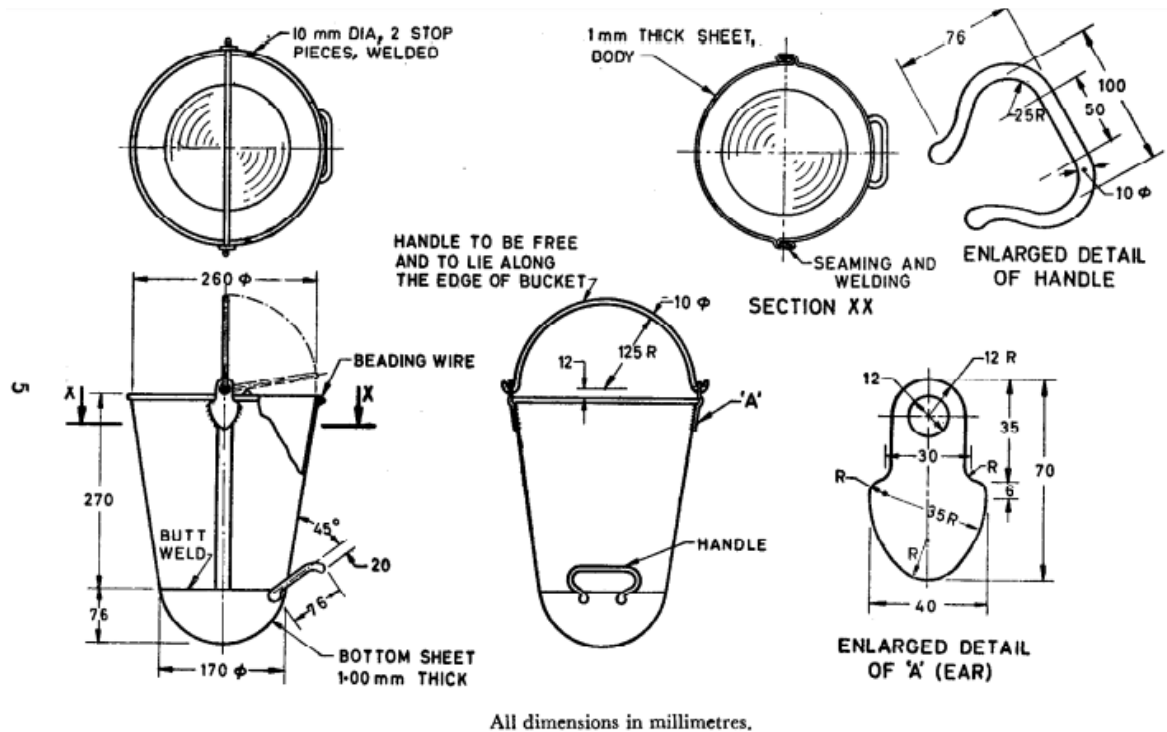

FIG. 1 FIRE BUCKET— SHAPE AND ESSENTIAL DIMENSIONS
The shape and the essential dimensions of fire bucket shall conform to those shown in Fig. 1.
4. Top Handle - The top handle shall be of mild steel rod of 10 mm in diameter with its ends bent up as shown in Fig. 1.
5. Bottom Handle - The bottom handle shall be of mild steel rod of 10 mm in diameter and it shall be joined to the bottom by welding as shown in Fig. 1. The grip shall have no sharp edges.